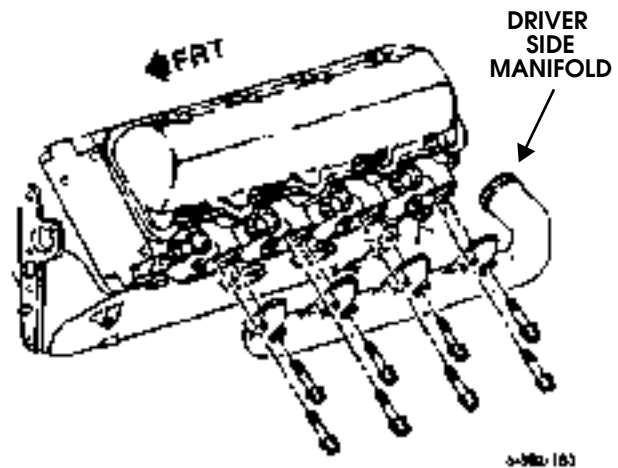

Figure 2-50: Exhaust Manifold Attachment
5. Remove manifold attaching bolts and remove manifold (Figure 2-50).